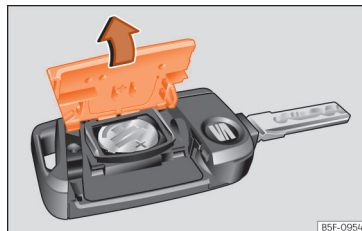

Fig. 79 Vehicle key: opening the battery compartment cover.
- Remove the cover from the back of the vehicle key »» Fig. 79 in the direction of the arrow »» ❶.
- Fit the cover as shown »» Fig. 79, pressing it onto the vehicle key casing in the opposite direction to that shown by the arrow until it clicks into place.